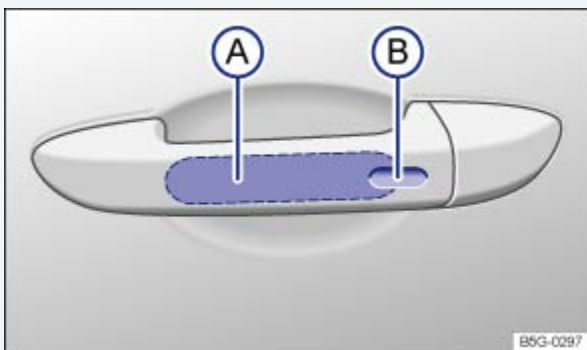

Fig. 31 Keyless Access system: Sensor for unlocking on the inside of the front door handles. Sensor for locking on the outside of the front door handles.
ing system that unlocks and locks the vehicle without active use of a remote control vehicle key. All you have to do is touch a sensor surface on one of the front outside door handles ⇒ Fig. 31 or push the Volkswagen emblem on the trunk lid ⇒ Opening the trunk lid when a valid remote control vehicle key is within range ⇒ .
- Keyless Entry: Unlocking the vehicle with the sensor surfaces on the outside door handles of the driver or front passenger door ⇒ Fig. 31[Ⓐ] or by using the Volkswagen emblem on the trunk lid.
- Keyless Exit: Locking the vehicle via the door handle sensor on the driver or front passenger door ⇒ Fig. 31[Ⓑ].
- Grasp the door handle of the driver or front passenger door so that you touch the unlocking sensor surface ⇒ Fig. 31 [Ⓐ].
- Touch the sensor surface in the door handle on the driver or front passenger door ⇒ Fig. 31 [Ⓑ] *one time*. The vehicle is locked. The door being locked must be closed.
To use the convenience closing feature to close all power windows and the sunroof, hold your finger on the lock sensor surface on the outside of the door handle ⇒ Fig. 31® for a few seconds until the windows and sunroof close.